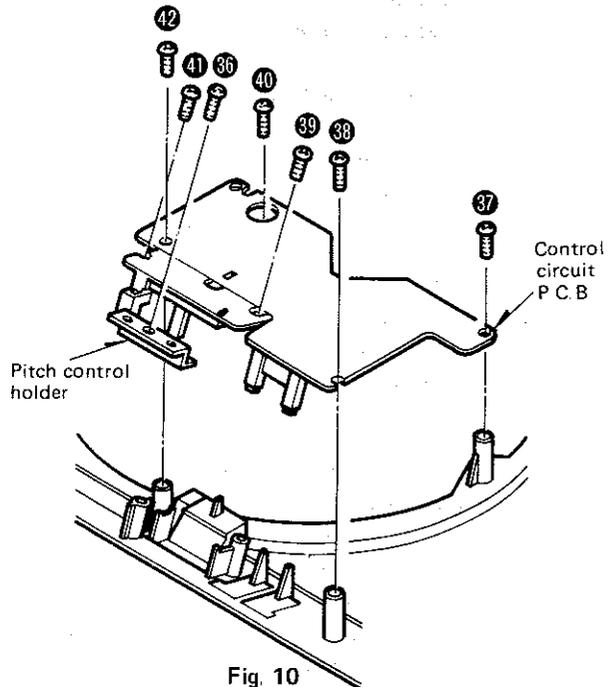

Fig. 10
3. Remove the pitch control holder setscrew (Fig. 10 : 36) and pitch control holder.
4. Remove the 6 setscrews (Fig. 10 : 37 ~ 42) of control circuit P.C.B. Then, the control circuit P.C.B. can be removed.